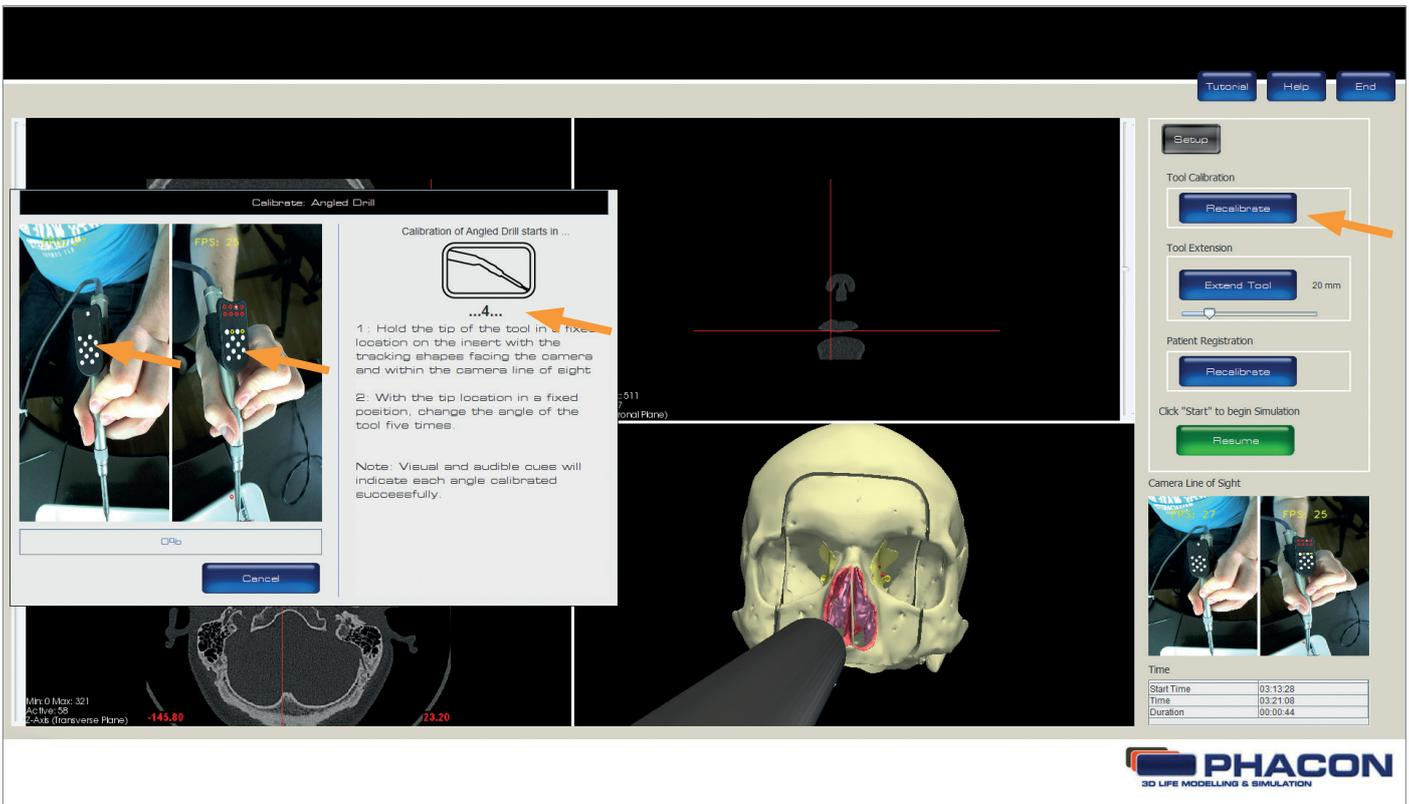

Fig.: 5
To calibrate your instrument click on icon Tool calibration -> „RECALIBRATE“ (Fig. 5).
To calibrate another instrument, the selected tool can be exchanged during the shown time in seconds (Fig. 5). The software automatically detects the current instrument in use.
1. Click on the CALIBRATE or RECALIBRATE button to begin the calibration process (*Fig. 5 page 11*).